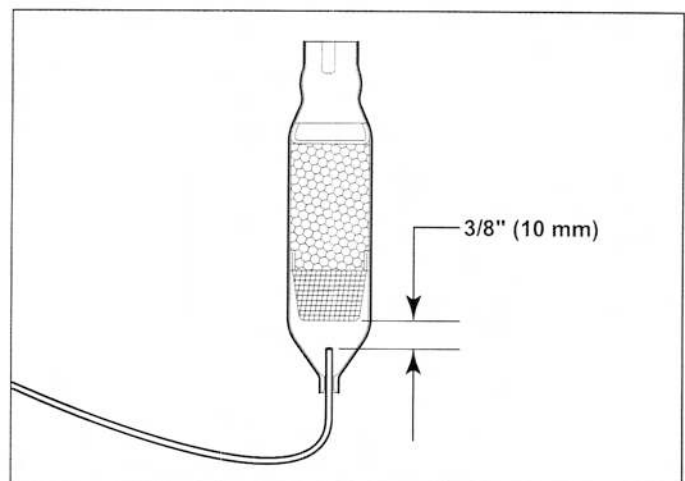

Figure 7-81. Filter-Drier Cut-Away View
**NOTE:** When installing the replacement filter-drier, insert the capillary tube until it touches the screen, then pull the capillary tube approximately 3/8" (10 mm) away from the screen before brazing. (See Figure 7-81) When installing a new filter-drier, be sure to thoroughly clean the tubing before brazing.